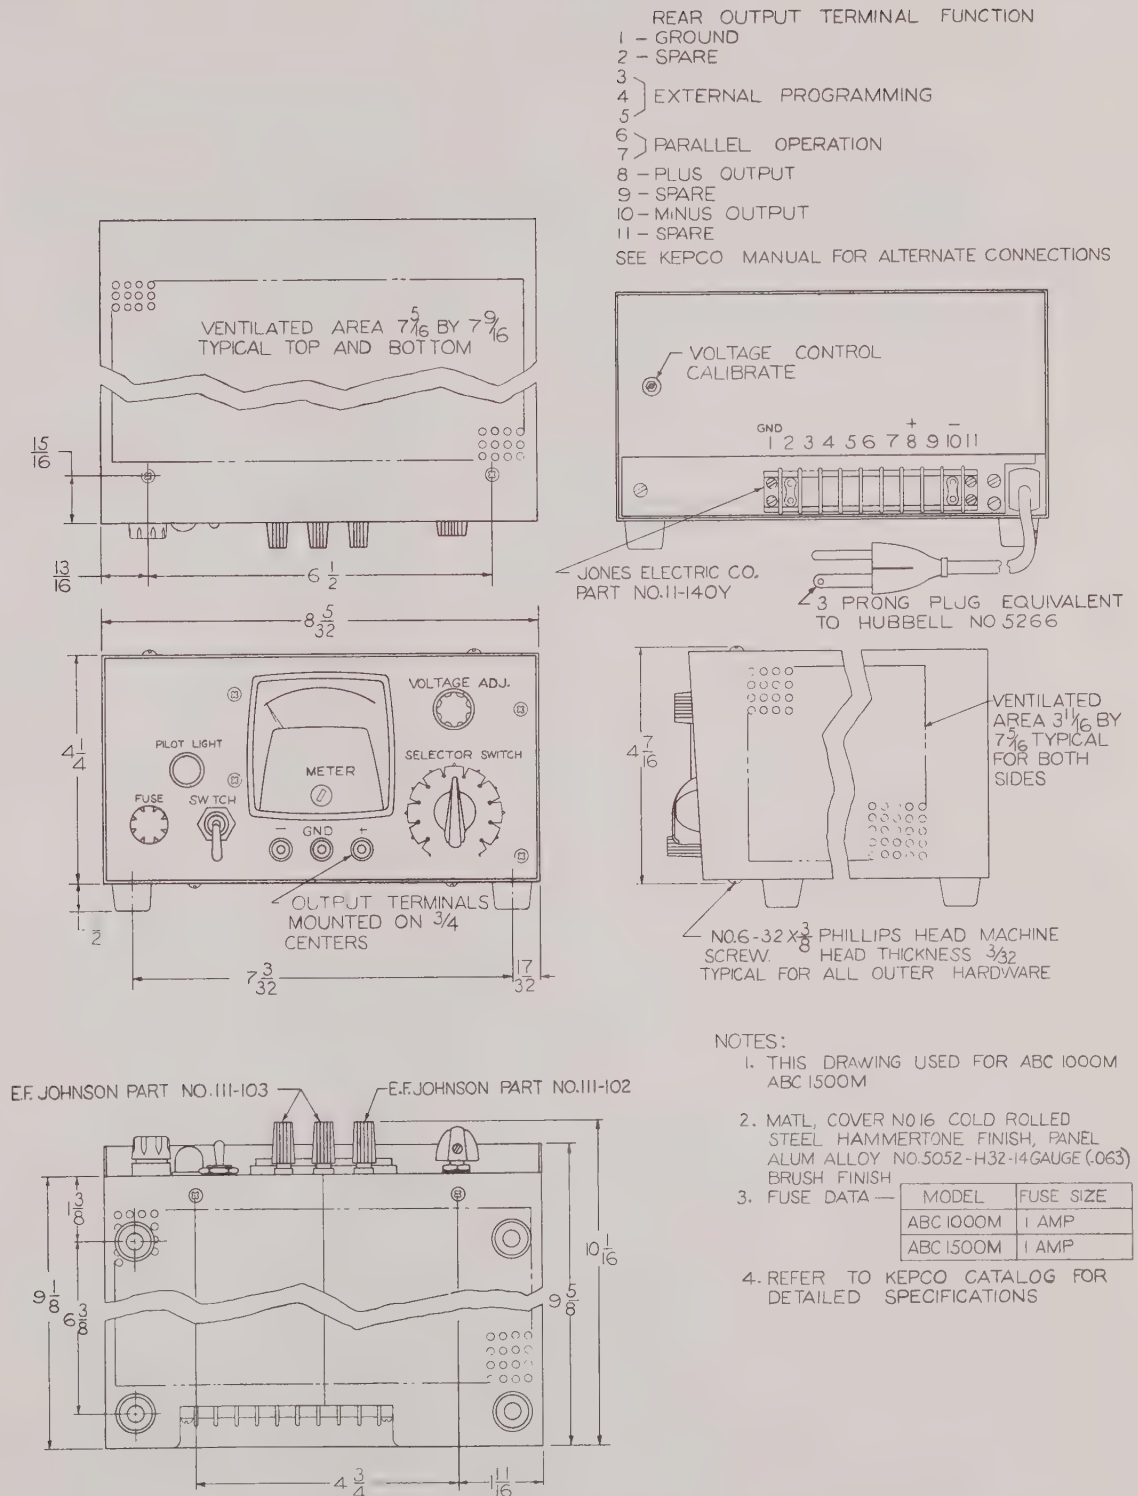

FIG. 1-3 MECHANICAL OUTLINE
- c) DIMENSIONS: Refer to mechanical outline drawing (FIG. 1-3 for dimensions.